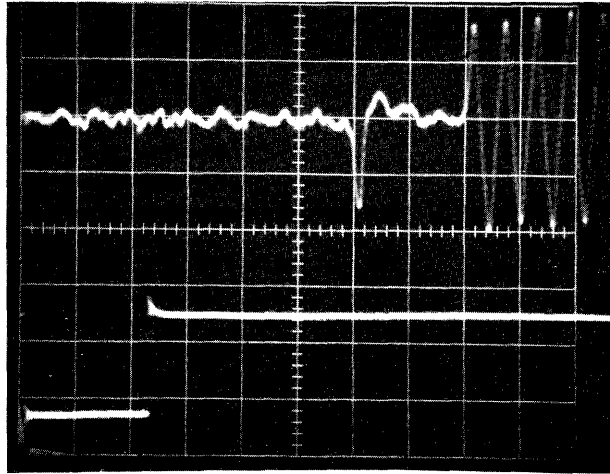
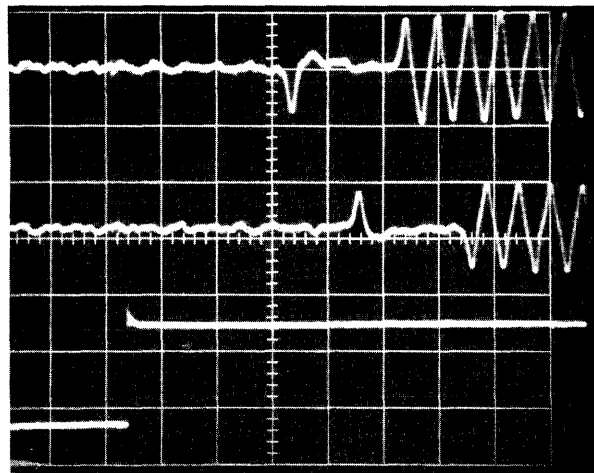

Figure 6-25. Circumferential Alignment, Front Load Drives
Figure 6-26. Compromise Circumferential Alignment, Front Load Drives
- (5) The first pulse of the waveform at TP2 should occur  $30 \pm 5 \mu\text{sec}$  from the negative-going edge of the Index signal (time-zero reference). See Figure 6-25.
- (6) Select head 1.
- (7) Observe the waveform at TP2. The first pulse should occur  $30 \pm 5 \mu\text{sec}$  from the negative-going edge of the Index signal (time-zero reference).
- (8) Alternately switch between heads 0 and 1 and observe the relative displacement of the pulse for each head. The total displacement (separation) between pulse positions must be  $10 \mu\text{sec}$  or less. See Figure 6-26.
- (4) Select the other head and ensure that the specification detailed in Step (3) is met. A compromise adjustment may be required to meet the  $30 \pm 5 \mu\text{sec}$  requirement for both heads; see Figure 6-26.
- (5) The first pulse of the waveform should occur  $30 \pm 5 \mu\text{sec}$  from the negative-going edge of the Index signal (time-zero reference). See Figure 6-25.
- (5) Turn the Phillips-head screwdriver slightly in the opposite direction of the last turn to cause the adjusting screw to relax the force on the mechanism (i.e., mid-range of the screw backlash).
- (6) Recheck heads 0 and 1 to verify that the measurement is still within tolerance. Repeat Steps (3), (4), and (5), as necessary.
- (7) Tighten the locking screw that was loosened in Step (3) above.
- (8) Recheck heads 0 and 1 to verify that the measurement is still within tolerance. Repeat Steps (2) through (7), as necessary.
- (9) Remove the Phillips-head screwdriver and reinstall the bezel.